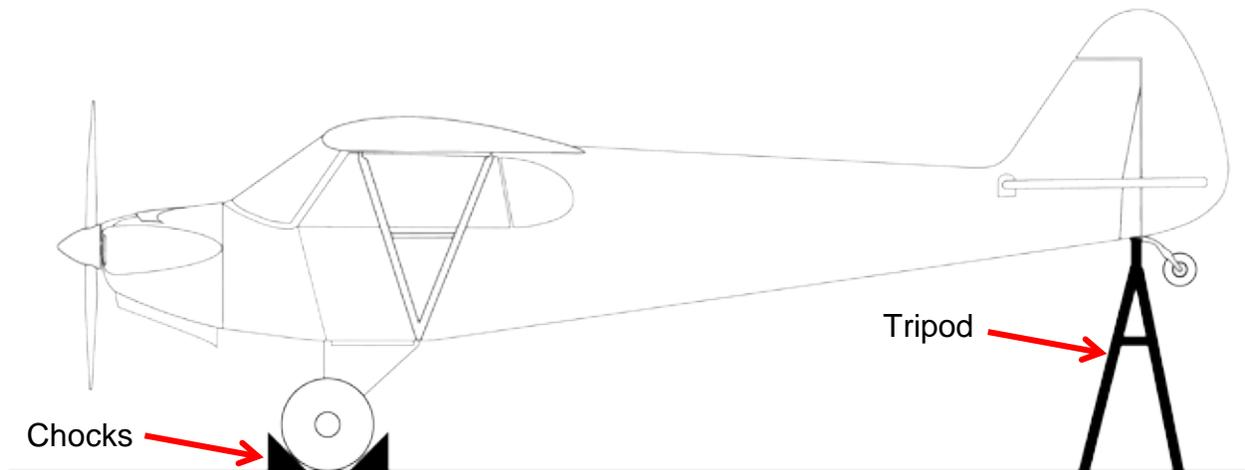

Figure 1 – Raising the Tail
(1) RAISING THE TAIL
- (b) Lift under the inboard side of the empennage and raise the airplane to place a tripod or saw horse under the tail wheel springs, as indicated in Figure 1.